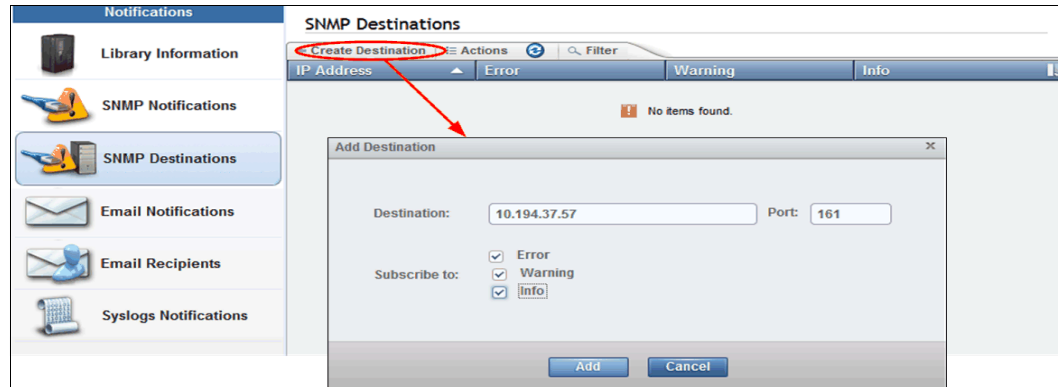

Figure 4-24 SNMP Destinations window
1. From the SNMP Destinations window, select the **Create Destination** tab to display the Add Destination window, as shown in Figure 4-24.